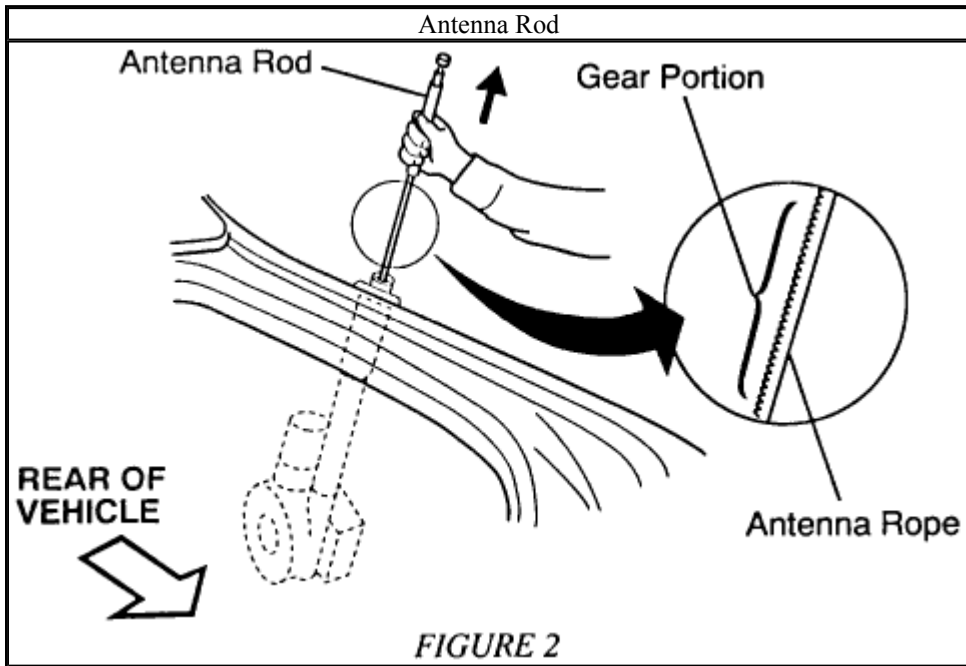

FIGURE 2
3. Insert the replacement antenna rod with the radio in the "ON" position. Insert antenna rope with gear section facing the motor assembly [Figure 2].